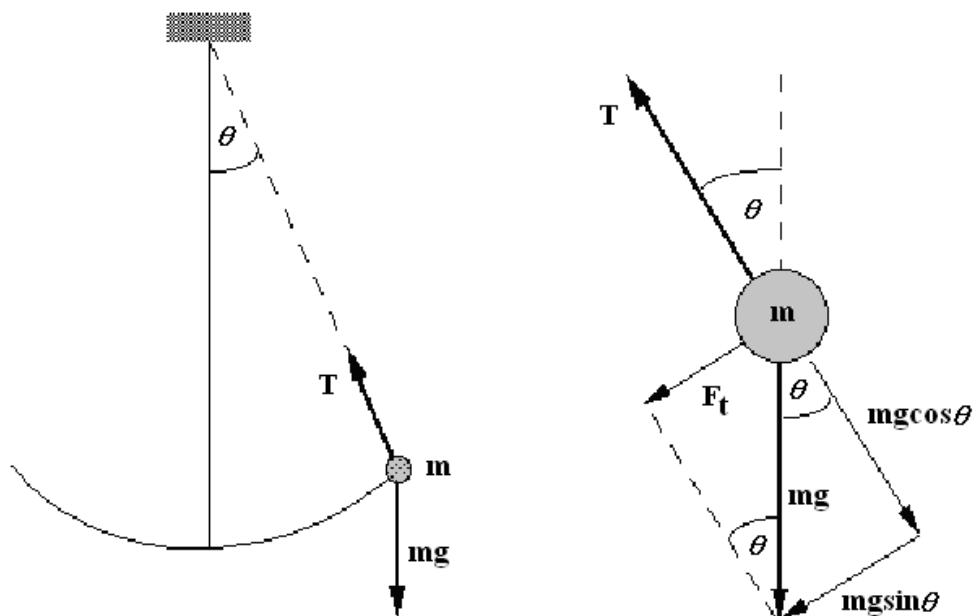

Figure 8.1: Force diagram of a pendulum
Consider the pendulum shown in Figure 8.1. The weight at the end of the string is called the “bob” of the pendulum. The acceleration, a_t , of the bob **tangent** to the arc “drawn” by the pendulum as it swings is determined by F_t , the force tangent to the arc. Since the tension in the string (T) always acts along the **radius**, it does not contribute to F_t . Decomposing the gravitational force mg into components perpendicular and parallel to the string as shown in Figure 8.1, we find that